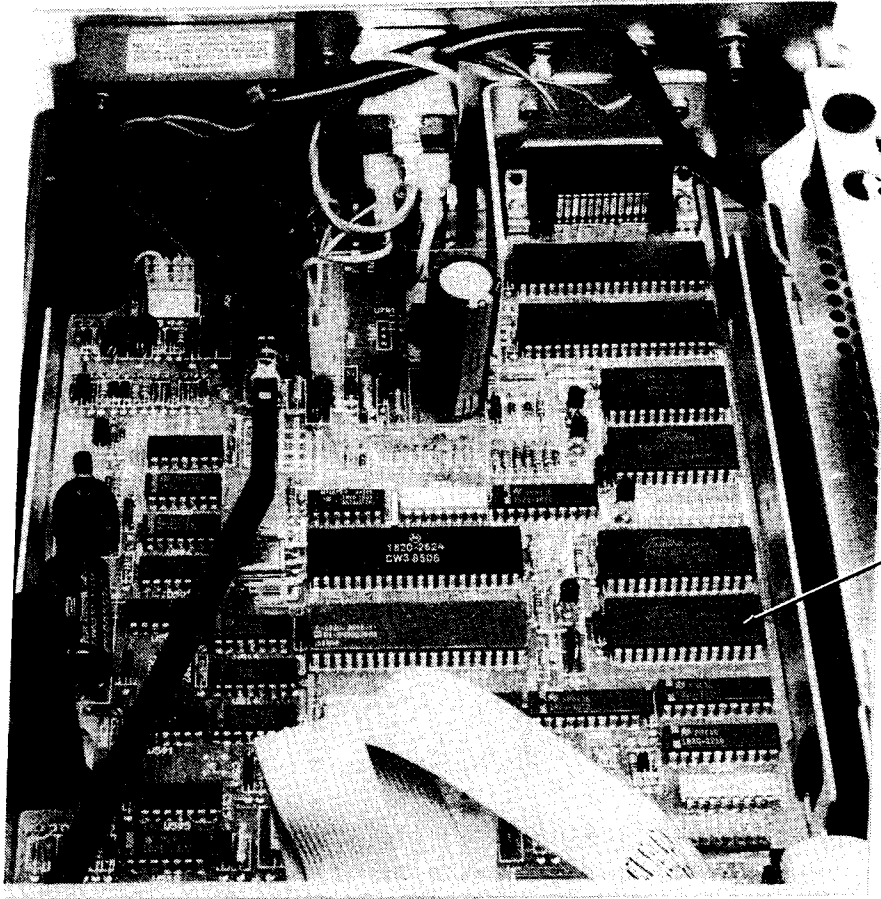

Figure 1.
2. Once the 03457-66501 assembly is removed, find the ROM (A1U502) shown in figure 1.